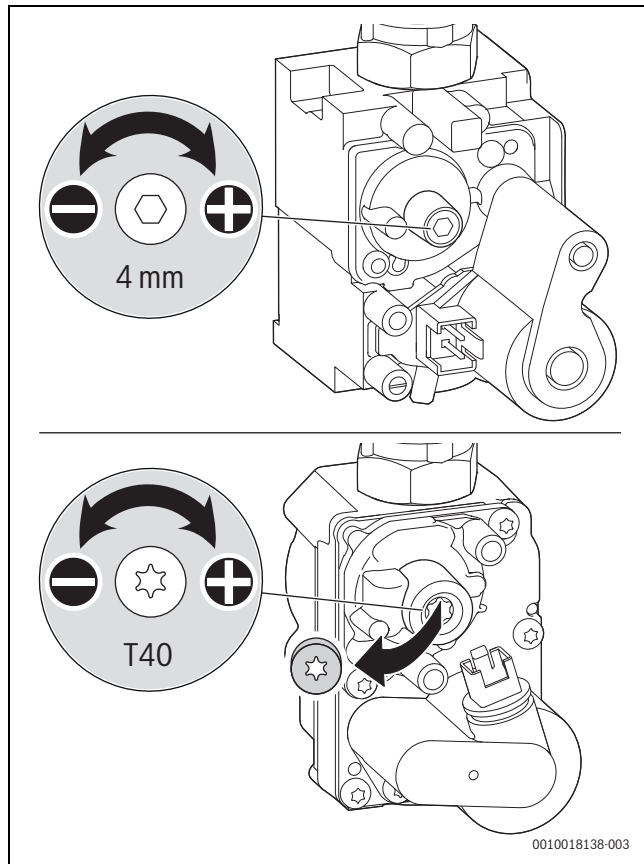

Fig. 42 Set the CO₂- or O₂ content
- ▶ Remove the seal from the adjusting screw of the air/gas ratio control valve (only on the air/gas ratio control valve shown in the below Fig. 42) and set the CO₂ or O₂ content for minimum rated output.